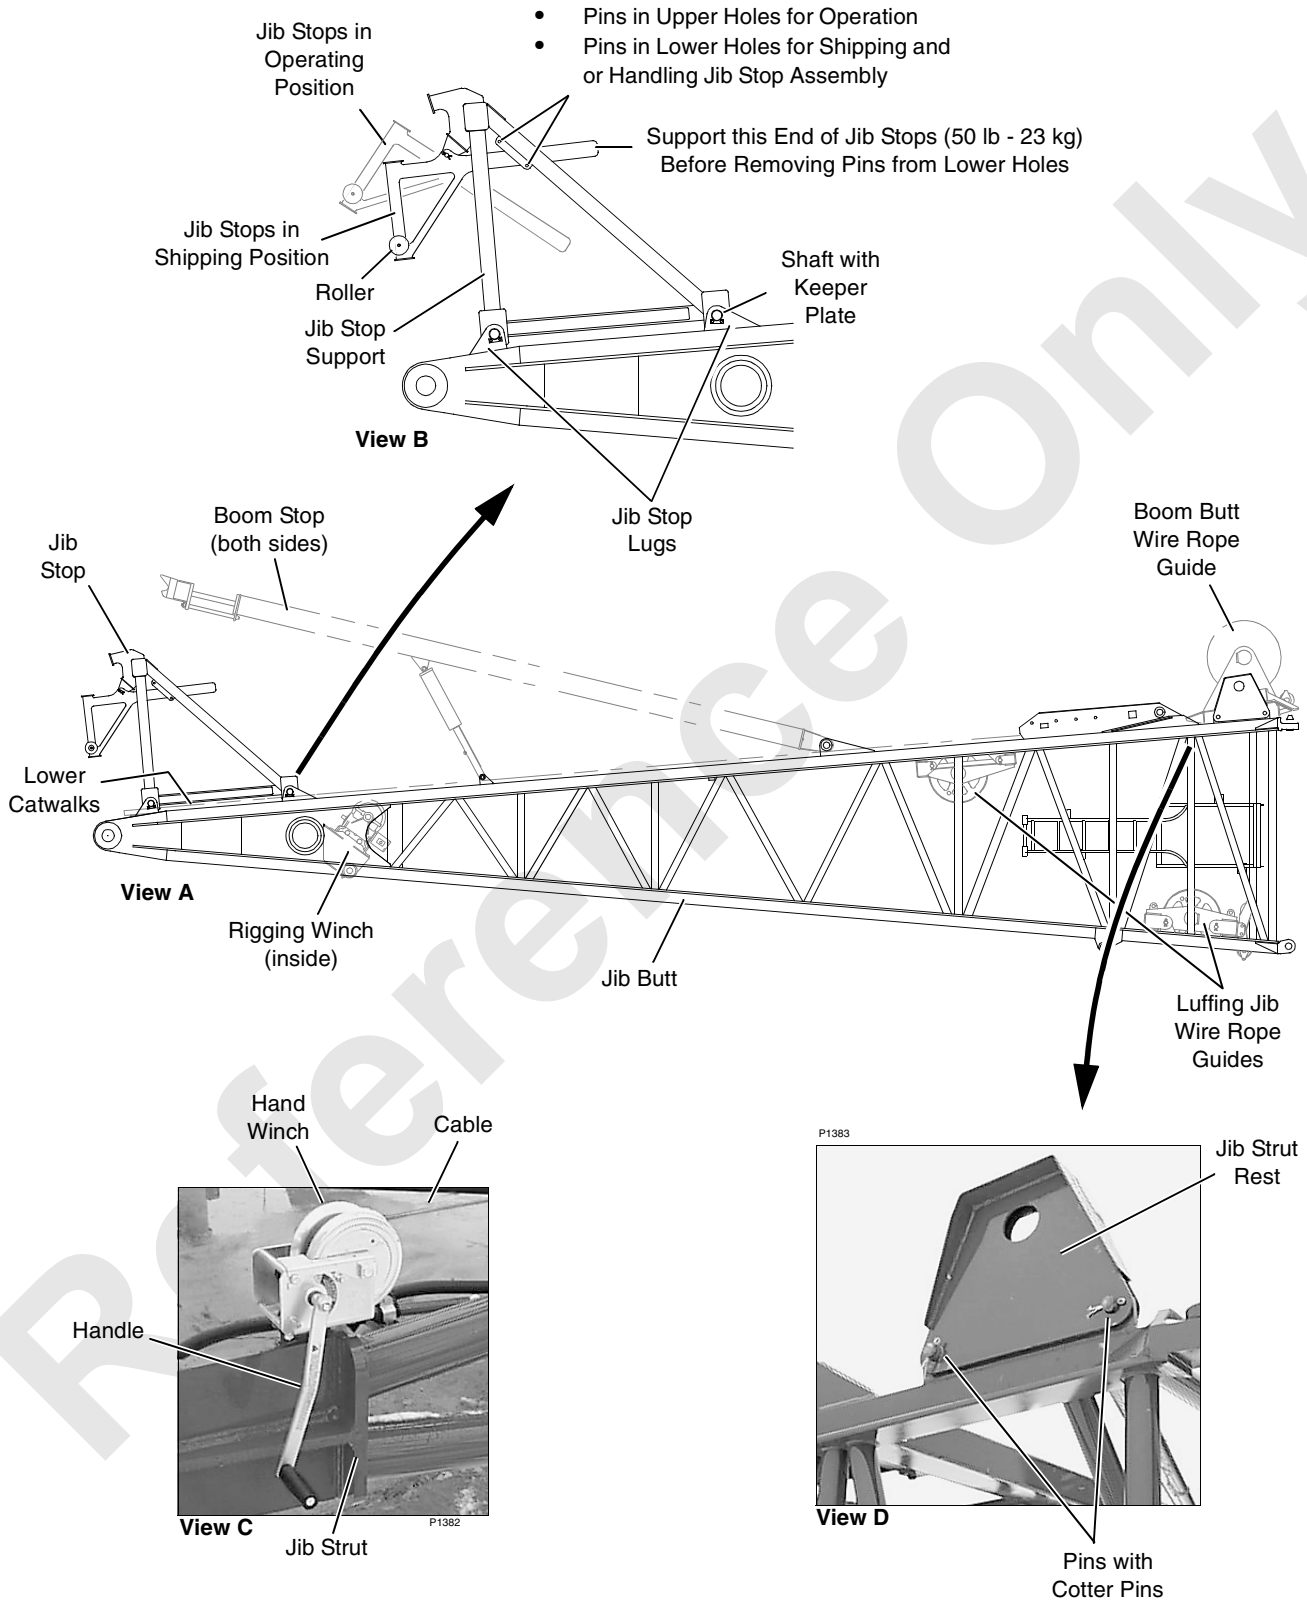

FIGURE 4-3
10. Pin jib stop assembly to lugs on jib butt (Figure 4-3, Views B and C).
11. Attach hand winches to jib strut if necessary (Figure 4-3, View C).
12. Pin jib strut rest to lugs on jib butt (Figure 4-3, View D).
See Figure 4-3, View B for remaining steps.